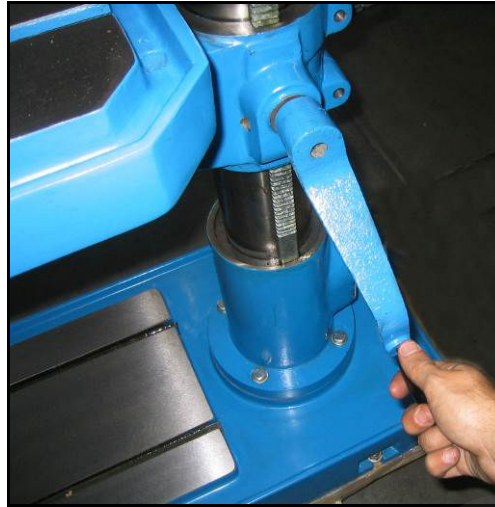

Figure 16 – Adjusting the table height.
2. Fetch handle (E) and turn it clockwise for raising the table, or anticlockwise for lowering it, until reaching the desired height (figure 16).